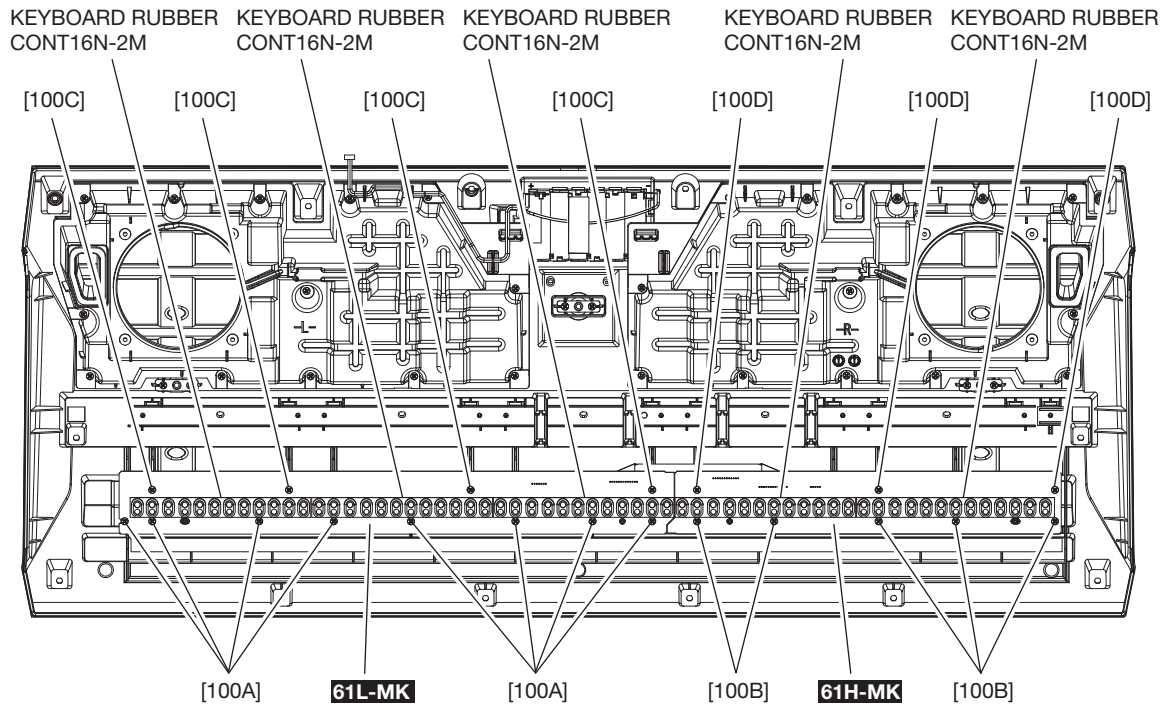

Fig.2
2. Remove the 4 screws marked [100C] and 8 screws marked [100A]. The circuit board 61L-MK can then be removed. (Fig.2)
2. Remove the 3 screws marked [100D] and 5 screws marked [100B]. The circuit board 61H-MK can then be removed. (Fig.2)